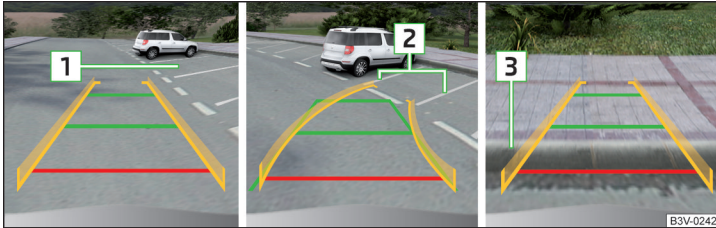

Fig. 188 Display
- At the selected parking space **1** » Fig. 188 slowly drive past and stop the vehicle.